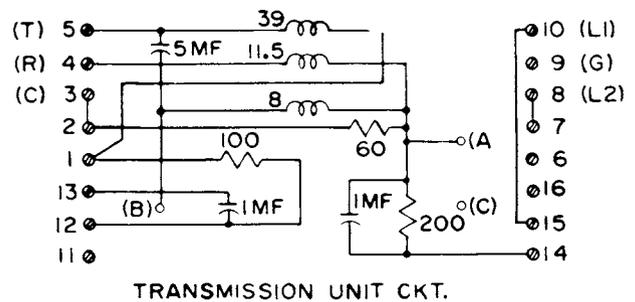

Figure 18. Schematic transmission unit for manually-adjusted circuit.
5.3 The transmission unit schematic (figure 18) is for information for continuity tests, ohmmeter measurements, etc. During manufacture, the transmission unit is sealed, do not attempt repairs in the field. If it becomes damaged; replace it.